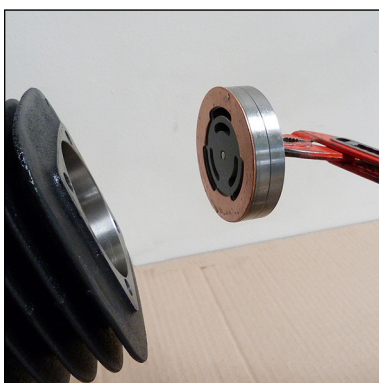

Fig. 3 - Place new inlet and outlet valve straightly into cylinder
- Place the new in- / outlet valve straightly into the cylinder (Fig. 3).